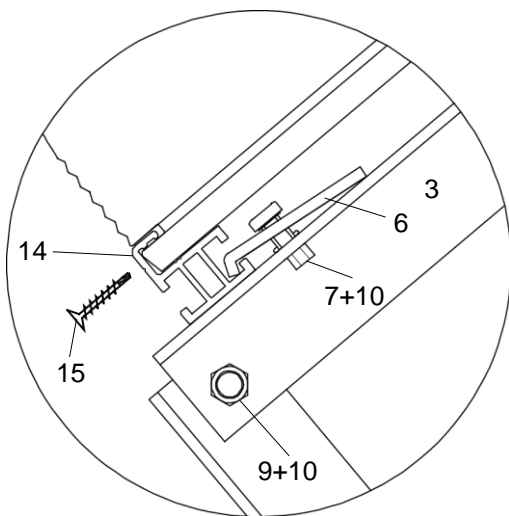

Fig. 6
- Fix the mounting profile below (14) at the supporting frame in the corresponding drillings using the clamps (6), the screws (7) and nuts (10) (Fig. 6).
- Now the base board (1) has to be ballasted with a sufficient quantity of gravel. The distance between the mounting profile below (bottom edge of the collector) and the gravel ballasting has to be at least 15 cm for ensuring the perfect ventilation of the collector. The collectors must be loaded with a gravel layer of at least 10 cm or with the statically sufficient value (gravel with grain size 16/32, density 1.800 kg / m3).
- Situate the collectors at the bottom mounting profile (14). Insert the mounting profile (on top) in the corresponding section of the collector (Fig. 6 + 7). The hydraulic connection between the collectors is done via the screw connections (already fixed on the panel). Tighten the screw connections using 2 spanner wrenches for achieving the correct distance between the collectors.